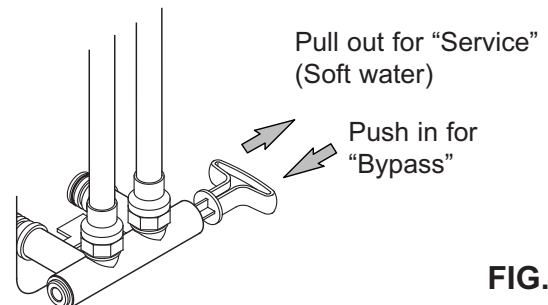
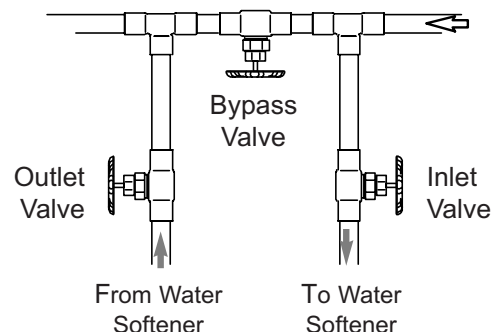

FIG. 7
FIG. 8
Always install either a single bypass valve (provided), as shown in Figure 7, or, if desired, parts for a 3 valve bypass system (not included) can be purchased and assembled, as shown in Figure 8. Bypass valves allow you to turn off water to the softener for maintenance if needed, but still have water in house pipes.
2. Place the bypass valve (single or 3 valve) into the "bypass" position. See Figures 7 & 8 on Page 7.